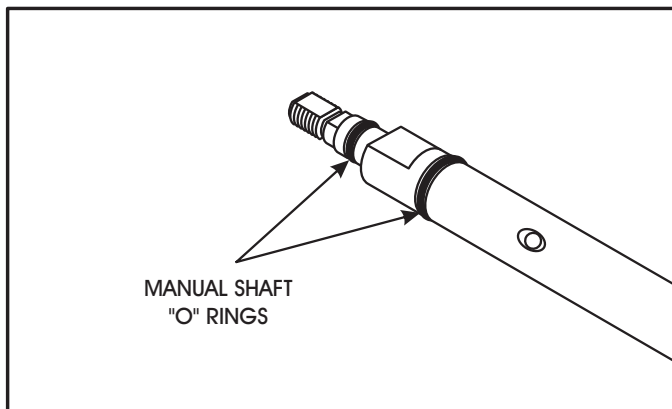

Figure 65
7. Install new "O" ring seals on manual shaft, as shown in Figure 65, and lubricate with a small amount of Trans-Jel®.